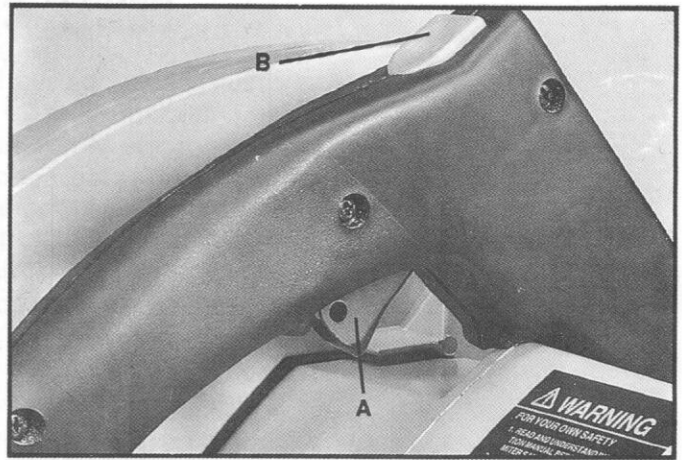

Fig. 13
To start the machine, depress switch trigger (A) Fig. 13. To stop the machine, release the switch trigger.
Your miter box is equipped with a blade brake. As soon as the cut is completed, release the switch trigger (A) and press down on the brake button (B), Fig. 13, until the blade comes to a complete stop. The brake button (B) is conveniently located on the top of the handle for easy thumb operation.